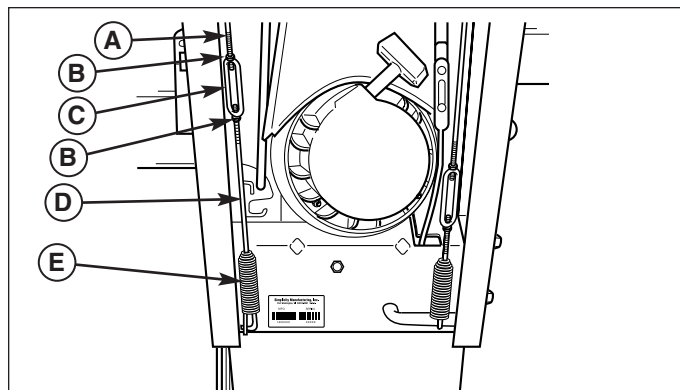

Figure 21. Traction Drive Adjustment (Channel Handle Models)
1. With the drive lever engaged, bottom end of lower rod (D, Figure 21) should be flush with bottom of spring (E).
2. To adjust, loosen the two nuts, (B) and hold the lower rod to keep from rotating. Turn the turnbuckle (C) toward the right to lower rod or toward the left to raise rod.
3. Engage the drive lever to check the adjustment. When correct, tighten the two nuts (B) against the turnbuckle (C). Hold the turnbuckle (C) with pliers while tightening the nuts (B).